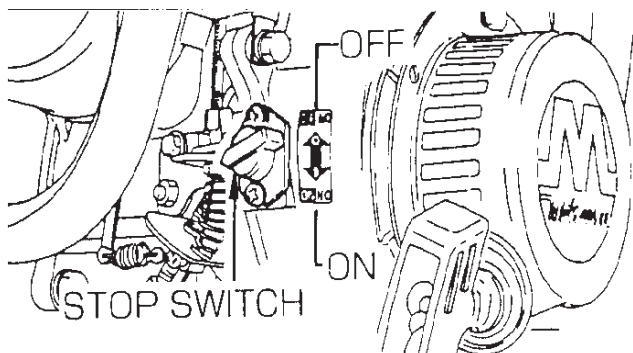
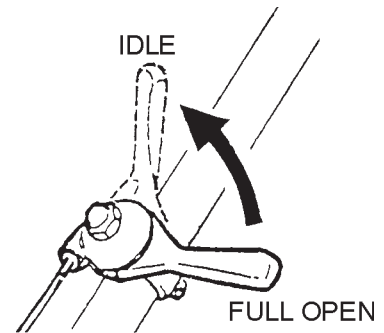

Figure 6. Engine On/Off Switch
Figure 11. Throttle Lever (Idle)
2. Set the engine ON/OFF switch (Figure 6) to the "ON" position (start).
1. Move throttle lever quickly from the **FULL OPEN** to **IDLE** position (Figure 11) and run the engine for three minutes at low speed. After the engine **cools**, turn the engine *start/stop* switch to the "**OFF**" position (Figure 6) until engine comes to a complete stop.
1. Move the throttle lever quickly to the **IDLE** position, and turn the engine start/stop switch (Figure 6) to the **STOP** position.